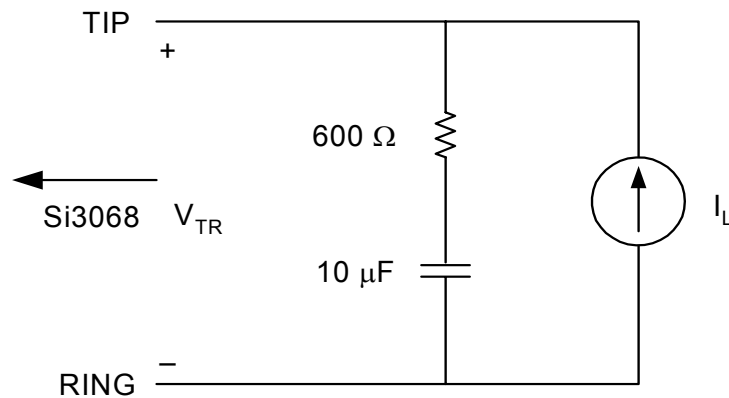

Figure 1. Test Circuit for Loop Characteristics
($V_D = 3.0$ to 3.6 V, $T_A = 0$ to 70 °C, see Figure 1)
1. Measured at TIP and RING with 600Ω termination at 1 kHz , as shown in Figure 1.